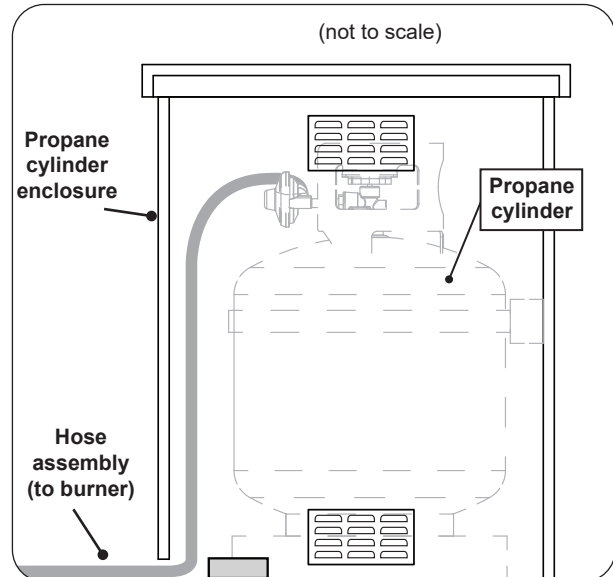

Fig. 32-3 L.P. Cylinder placement
3. The propane cylinder (not included) is to be located inside the separate propane cylinder enclosure (see Fig. 32-3).